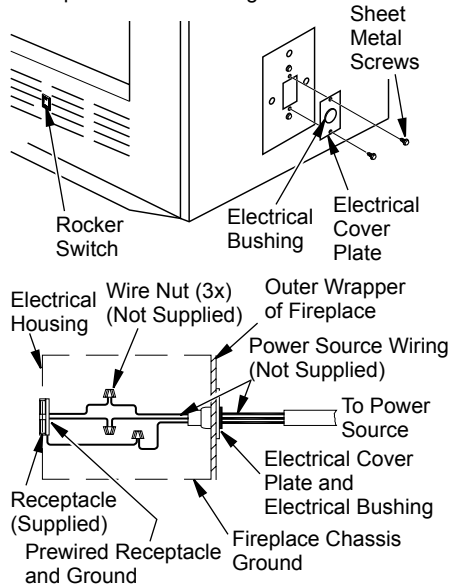

Figure 7 - Fan Switch-Electrical Bushing
Fan or blower kit is optional with this fireplace (circulating models only). Use of blowers or fans other than those manufactured by DESA Heating Products voids warranty. Fan is operated by pressing rocker switch (see Figure 7) in lower right hand corner of fireplace face. Blower is operated by turning control knob (not shown).
Fan/blower kit electrical connections are made through electrical cover plate on side of fireplace as shown in Figure 7.
1. Remove electrical cover plate with bushing from fireplace by removing 2 sheet metal screws as shown in Figure 7, page 6.
3. Slide all wiring connections in electrical housing as shown in Figure 7, page 6.